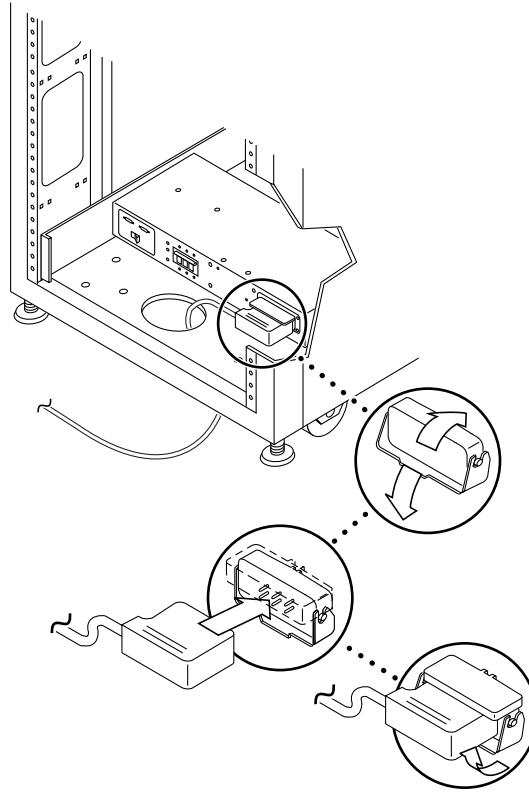

FIGURE B-6 Connecting the Power Cables
3. Connect the square female end of one power cable to the front power sequencer and the square female end of the other power cable to the rear power sequencer connector (FIGURE B-6).